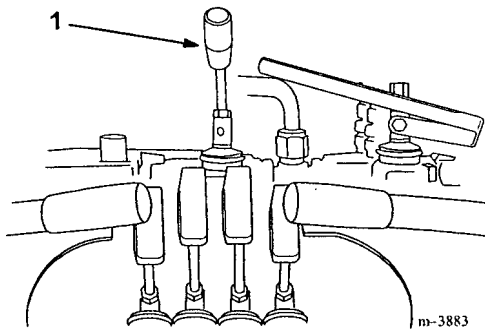

Figure 2
1. Thread the lever into the pump selector valve (Fig. 2).